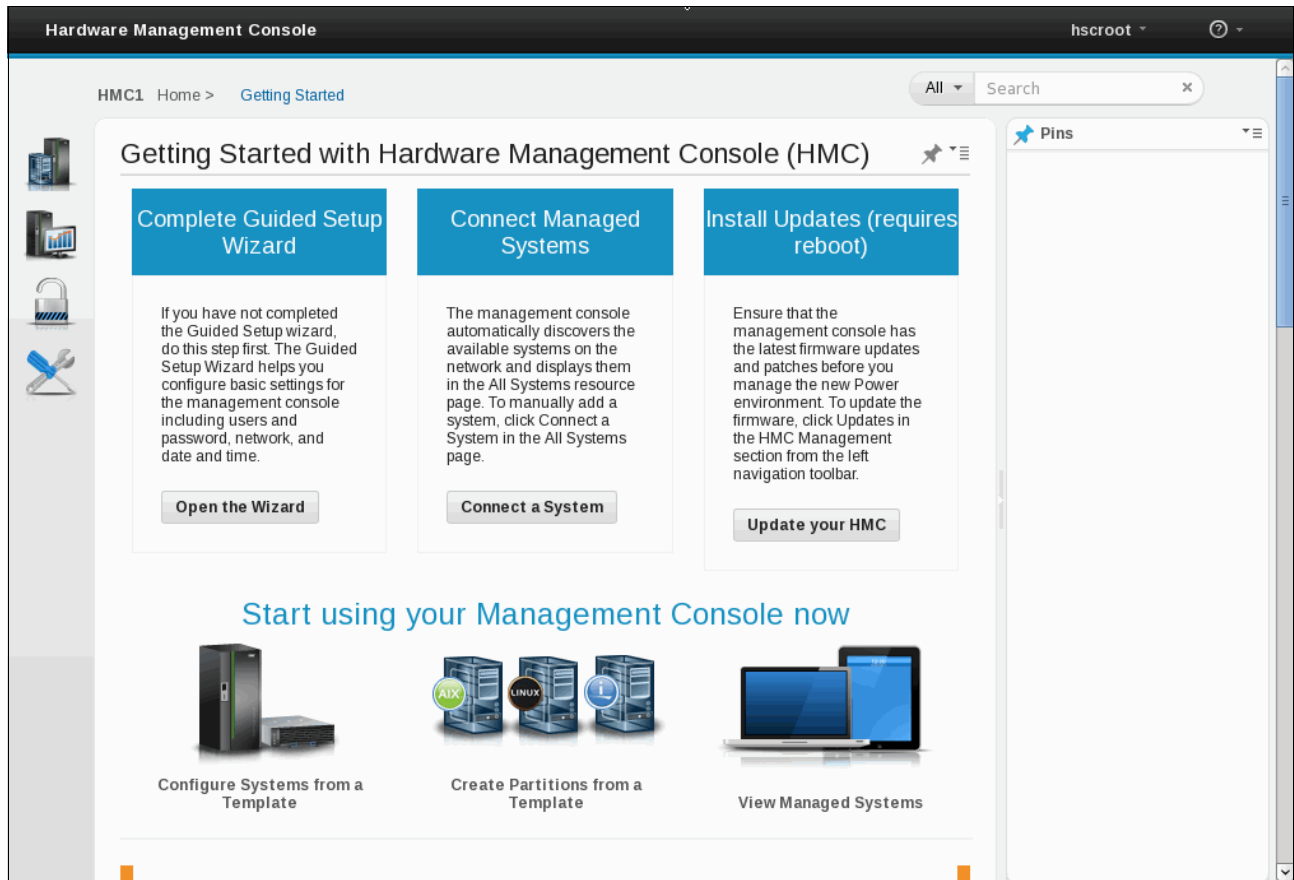

Figure 3-109 Getting started HMC panel
38. The Getting Started panel opens (Figure 3-109). From here you can start managing with the HMC.